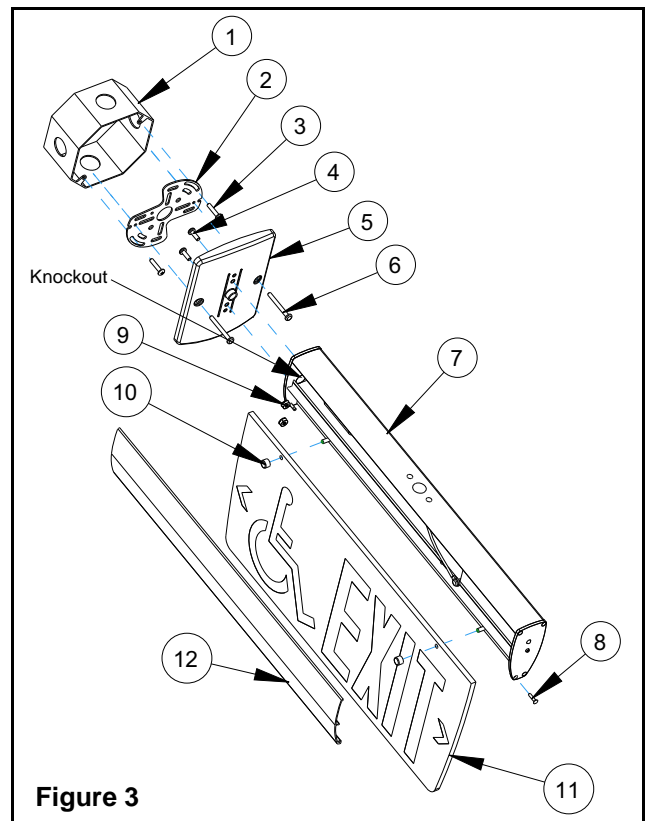

Figure 3
- a. For end-mount: remove the knock outs on the end cap towards the inside with a screwdriver (see figure 3).
- b. Fasten the canopy to the housing using screws(4) and lock nuts provided (9).